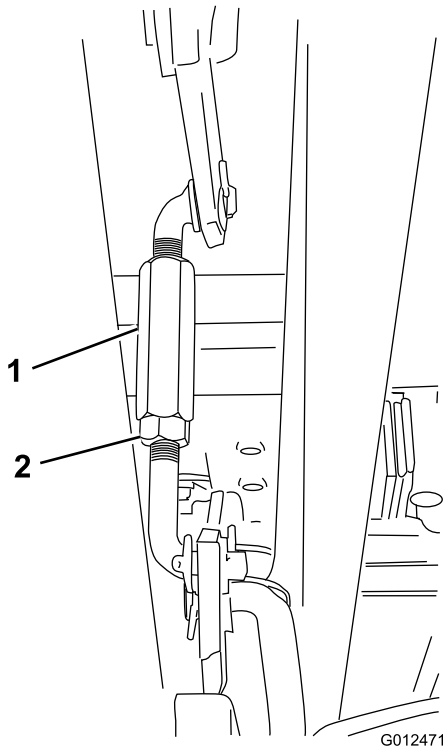

Figure 47
8. Loosen the jam nut on at the end of the turnbuckle (on the right side of the machine; refer to Figure 47), and adjust the turnbuckle until the distance between the front tip of the left blade and the flat surface is 55 mm (2-1/8 inch).